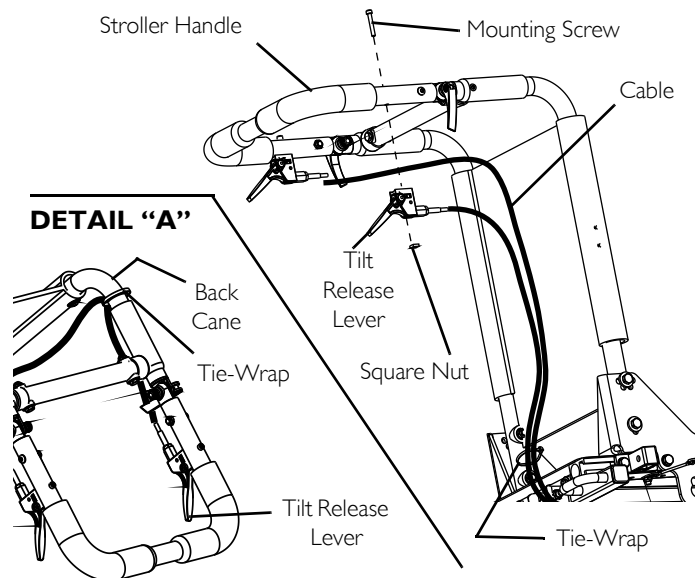

FIGURE 13 Removing/Installing the Manual Tilt Release Lever from the Stroller Handle
For this procedure, refer to FIGURE 13.
1. Cut tie-wrap that secures the cable to the back cane (Detail "A" of FIGURE 13).
2. Secure the cable to the wheelchair frame with tie wrap (Detail "A" of FIGURE 13).